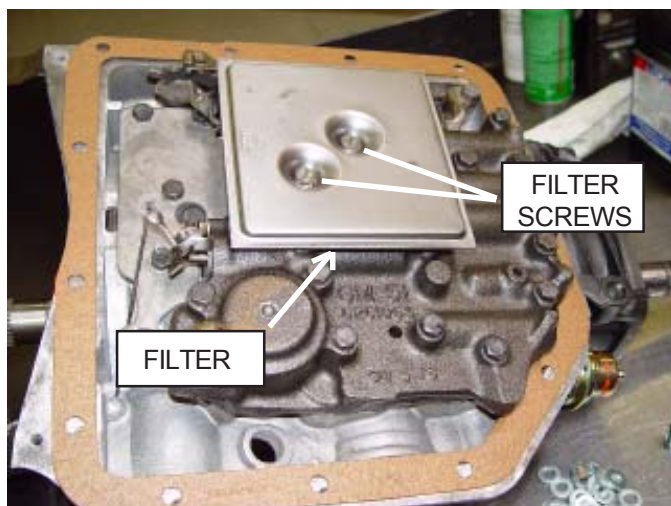

Figure 1
STEP 2. The oil filter will now be exposed (See Fig. 1). Use a screwdriver to remove two screws and remove the oil filter and filter gasket. Discard the filter and gasket.